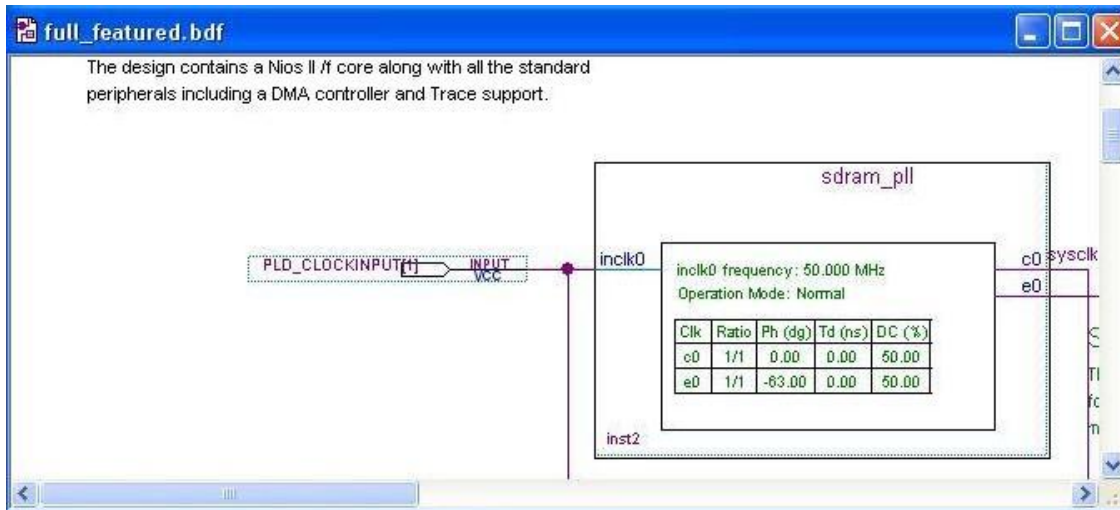

Figure 6: Original sdrām_pll Instance
7. Double-click on the sdram_pll instance in the full_featured.bdf window (see Figure 6). The MegaWizard Plug-in Manager will give you a message like